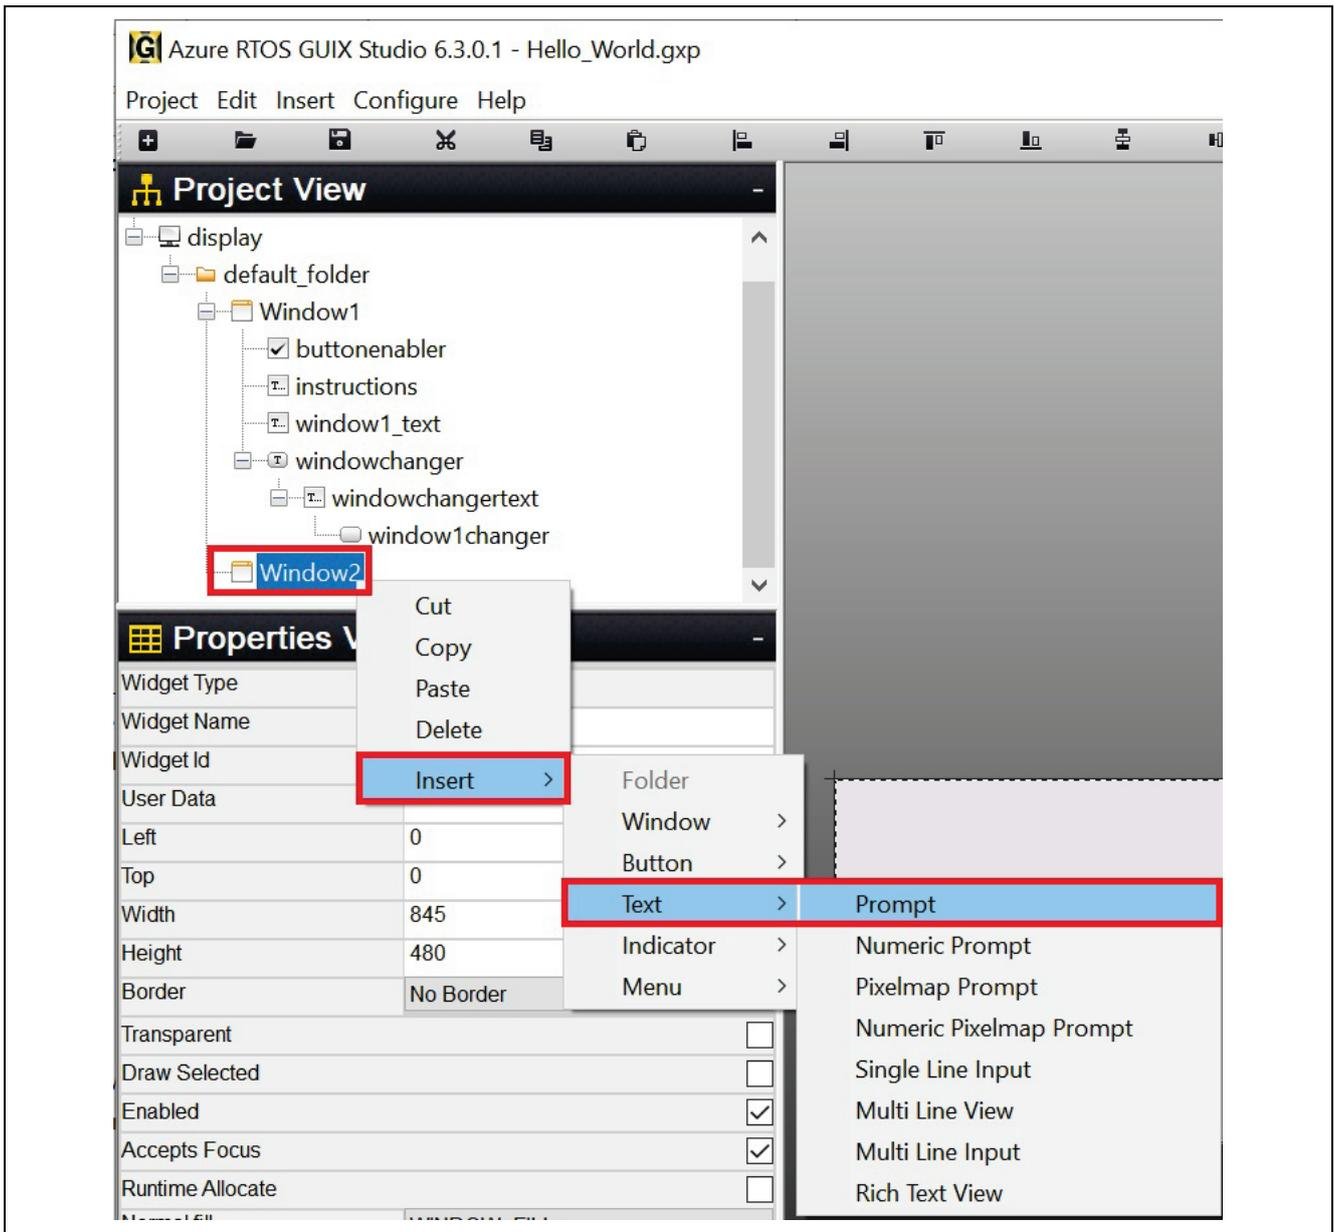

Figure 65. Insert Prompt for Window2
25. Insert **Prompt** for Window2. Right click from Window2. Right click on Window2 in the **Project View**, then click **Insert > Text > Prompt** as shown in **Figure 65**.